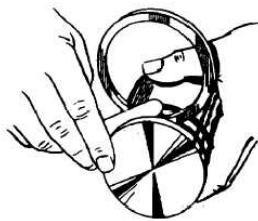

Fig. 2 - Checking Ring Side Clearance
- * Worn ring grooves - both top grooves should be checked. This can be done quickly and easily by holding the Top Compression Ring flush with the ring land in the top groove and inserting a feeler gauge between the upper side of the ring and the groove (see **Fig. 2**). **If the clearance is greater than .006", the groove has excessive wear and the piston must be replaced.** Repeat this process for the second groove using the Middle Compression Ring. If you have the 1-piece Oil Ring, follow this procedure for the third groove, also.